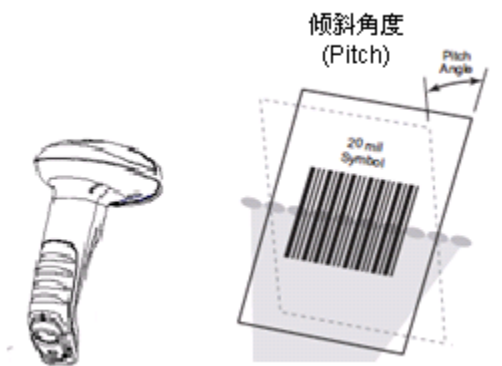

Fig. 1-13
- ◇ Pitch:  $\pm 55^\circ$ ,  $0^\circ$  Roll and  $0^\circ$  Skew (Fig. 1-13)